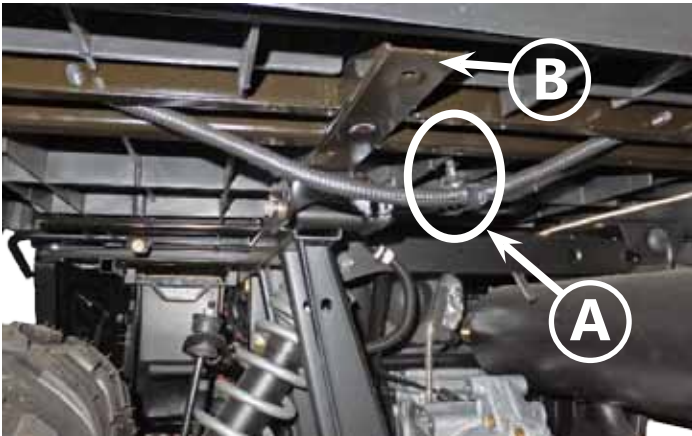

Figure 2 - Drivers Side.
3. Pull out two retaining clips (A) for the wiring harness; they are located towards the inside of the frame tubes labeled (B) in Figure 2. **NOTE:** Pull out only the ones closest to each of the frame tubes labeled (B)!